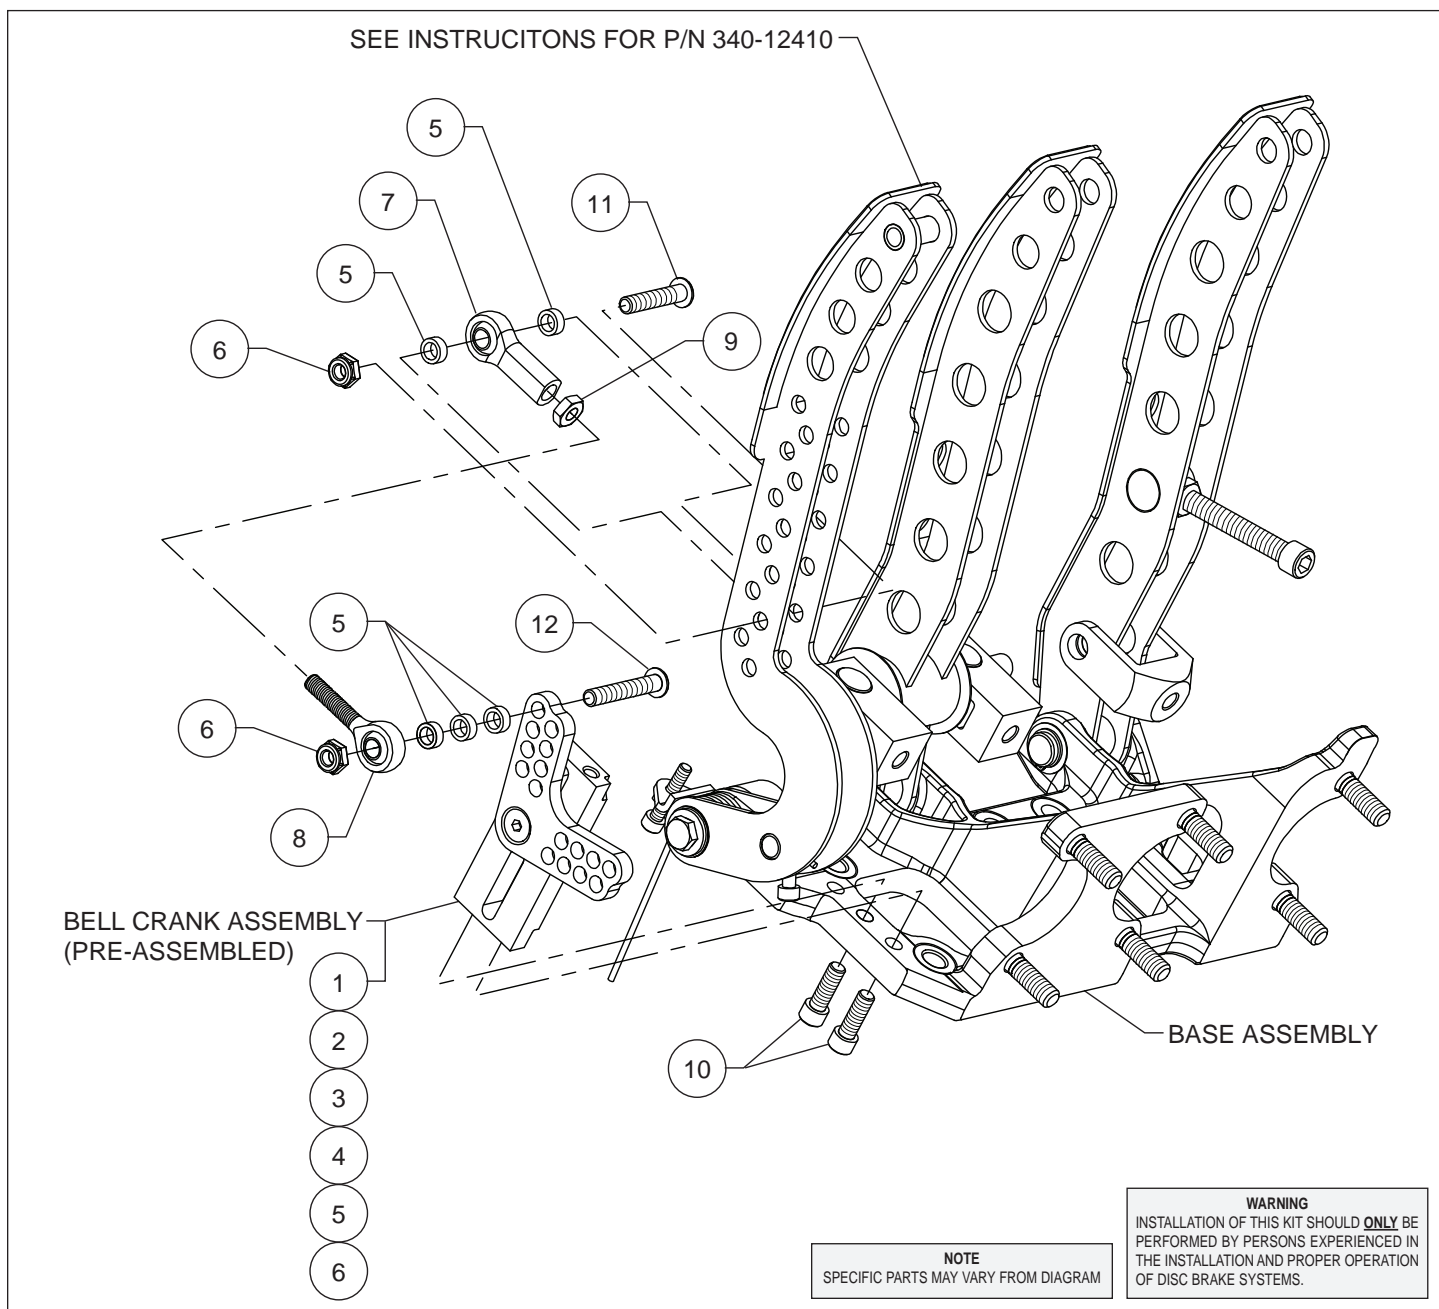

Figure 2. Typical Installation Configuration, For Front Engine Cars, Part Number 340-12411
Assembly Instructions • Part Number 340-12411 (numbers in parenthesis refer to the parts list and Figure 2 on page 4):
- Orient the bell crank assembly as shown in Figure 2 and attach to the pedal base using bolts (10). Apply red *Loctite*® 271 to the threads and torque to 140 in-lb.
- Assemble the connecting rod. Screw nut (9) onto male bearing end (8) and then screw the female bearing end (7) onto the male end, Figure 2. Do not tighten nut at this time.
- Install female bearing end (7) of the connecting rod into throttle pedal using bolt (11), two spacers (5), and nut (6), as shown in Figure 2.
- Attach the male bearing rod end (8) to the bell crank assembly using bolt (12), three spacers (5), and nut (6) as shown in Figure 2. **NOTE:** The bell crank assembly can be set up for a variety of throttle ratios. Final adjustment of the bell crank and connecting rod to be performed after pedal installation in vehicle.